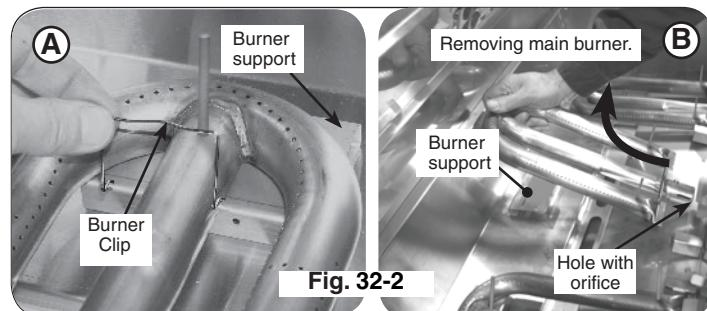

Fig. 32-2
2. Locate the burner. Slightly pinch and remove the burner clip (located over the rear center of the burner) from the burner support and set aside (see Fig. 32-2, A).
3. Carefully lift the burner from the burner support and out from the hole in the forward fire wall (see Fig. 32-2, B).
4. Use a $1/2"$ hex deep socket nut driver to remove the exposed orifice. Access it through the hole in the forward firebox plate inside the grill (Fig. 32-2). Check orifice. If needed, replace it with the correct orifice for the new gas.